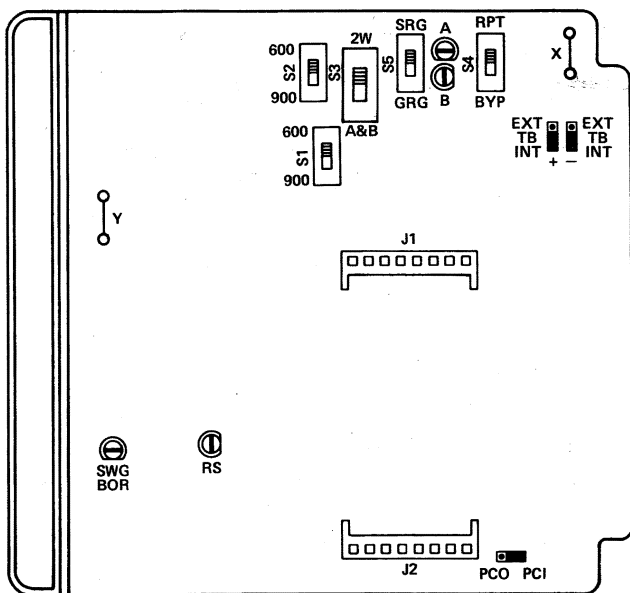

Figure 4. 7370-00 Option Locations
7.01 The 7370-00 is equipped with switch, push-on, screw, and hardwire strap options which allow the module to be arranged for various features and modes of service. The locations of these options are shown in Figure 4 and their usage is explained in the paragraphs which follow.